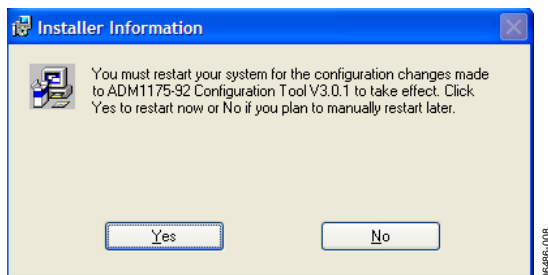

Figure 10. Installation Restart Reminder
8. Click **Finish**. The message shown in Figure 10 appears, indicating that you must restart the system for the configuration changes to take effect. Click **Yes** to restart the PC immediately; click **No** to manually restart later.